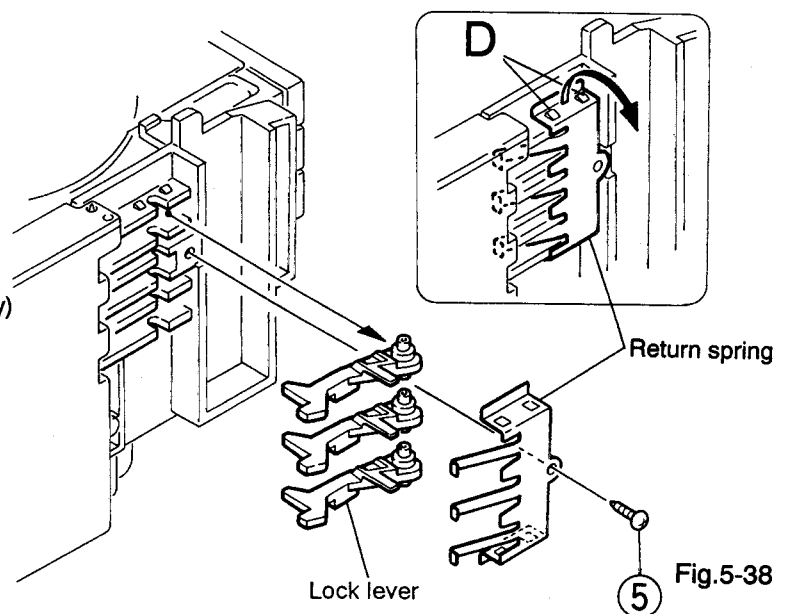

Fig.5-38
8. From the left side face of the chassis assembly, remove the one screw ⑤ retaining both of the return spring and lock lever. (See Fig. 5-38)
9. By removing the pawl at the section "D" fixing the return spring, dismount the return spring (See Fig. 5-38).
10. Remove the three lock levers (See Fig. 5-38).